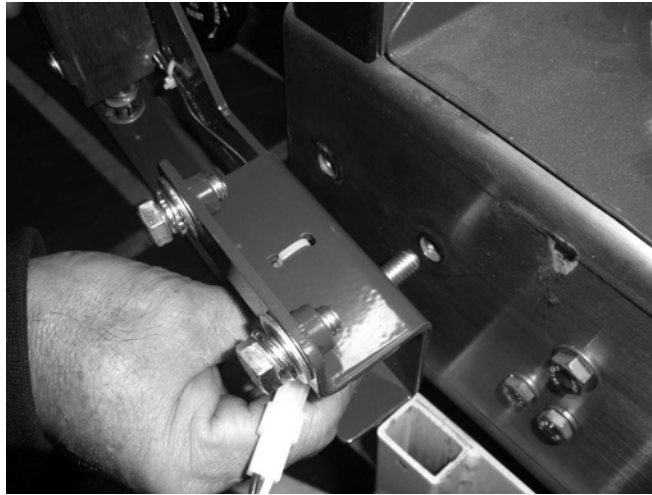

FIGURE 3: STOW-LOCK INSTALLATION
2. Locate the (2) holes where the Pendant Bracket (P/N 20226) was installed.
3. Attach Stow-Lock Assembly (P/N 44971) to right side of enclosure by installing (2) 3/8"-16 x 1 1/4" hex screws, (2) split washers and (2) flat washers, as shown in **Figure 3**.
4. Remove and retain (2) 3/8"-16 x 3/4" hex screws, (2) split washers and (2) flat washers that are included with Stow-Lock Kit #44909 and shown in **Figure 3**.